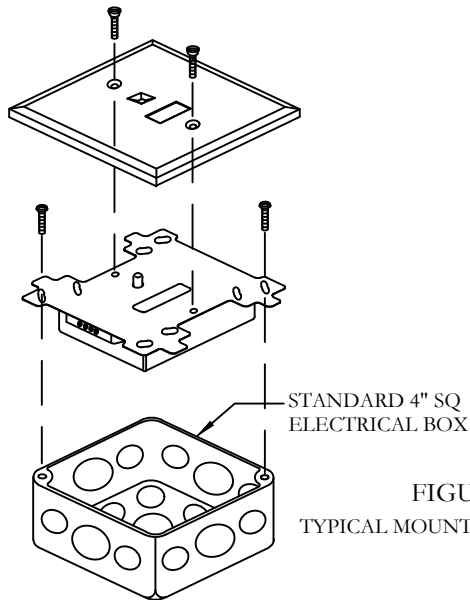

FIGURE 2
The Supervised Output module is mounted as shown in Figure 2 on page 2 of this instruction.
- 2) Secure the module to a U.L. listed electrical box (supplied by installer), as shown in Figure 2.